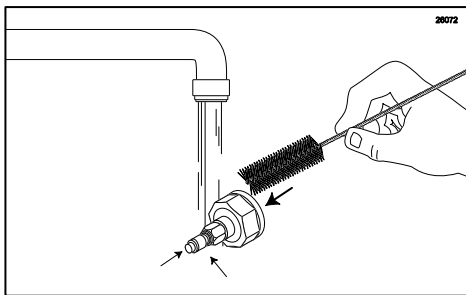

Figure 61
10. Brush and clean the Syrup Bag Adapter thoroughly with detergent water. Then rinse thoroughly with clean water. (See Figure 61.)